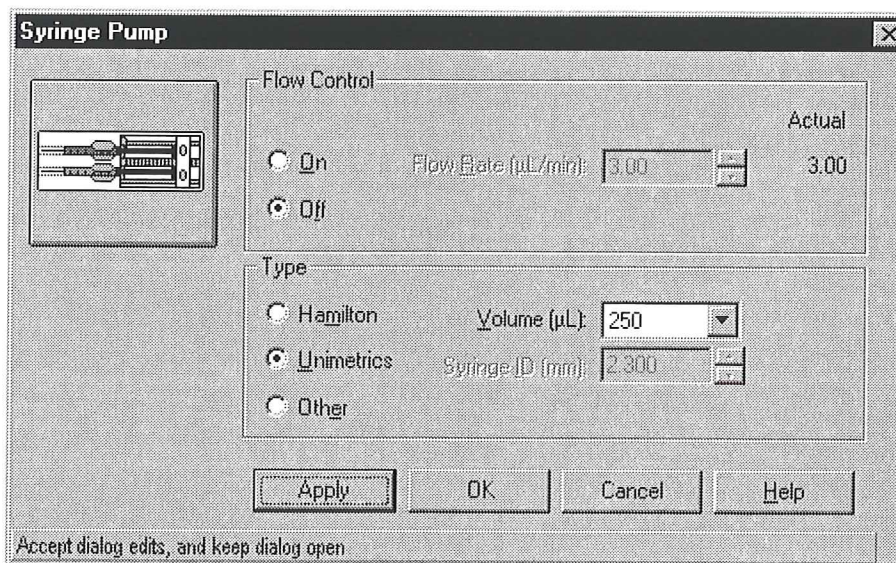

Figure 3-3. Syringe Pump dialog box, showing settings for reserpine
Choose **Setup | Syringe Pump**. See Figure 3-3.
- e. Confirm that your settings are the same as those shown in Figure 3-3.